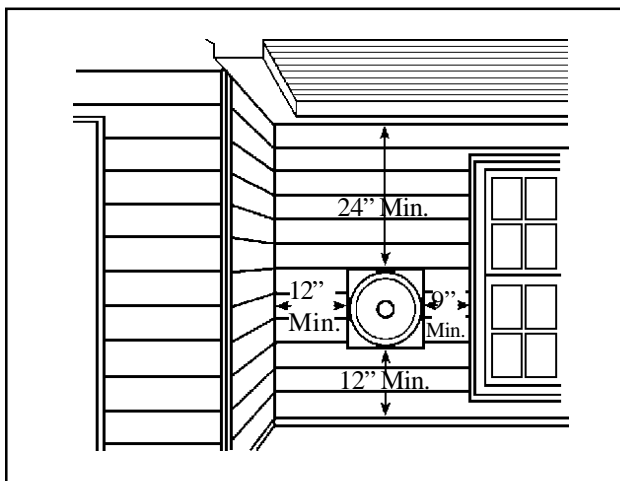
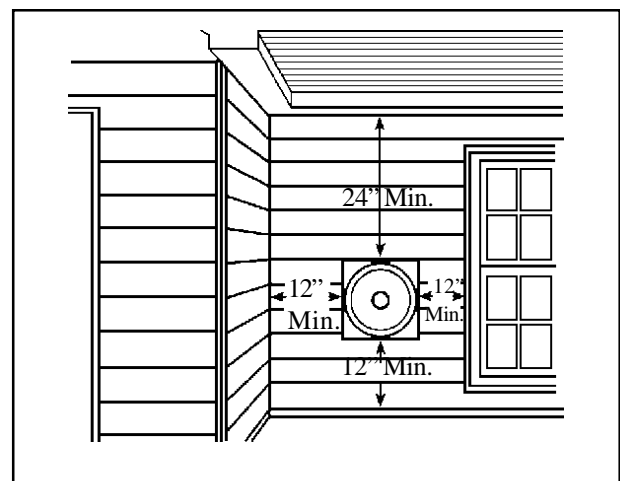

FIGURE 2 / DVCF403B, 404B, 407B, AND 408B
FIGURE 2B / DVCF557B, 558B, 653B, AND 654B
4. The minimum clearance from the side of the vent cap to any protruding obstructions, or corners is 12". (See Figure 2b).
5. The minimum clearance from any window to the side of the vent cap is 9" for DVCF403, 404, 407 and 408 (See Figure 2), and 12" for DVCF557, 558, 653, and 654 (See Figure 2b).
6. The minimum clearance from any overhanging projection is 24" to top of vent cap (See Figure 2).
5. Be sure the vent cap will have the proper clearances (See Figure 2).